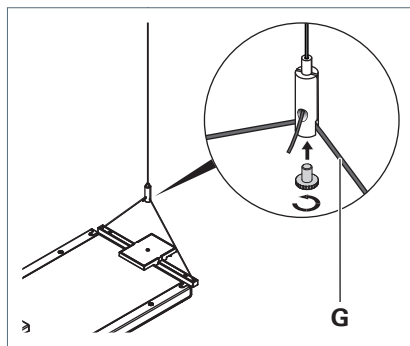

Fig. 12: Fastening the middle or end luminaire to the wire rope holder.
- ▶ Insert the wire rope **G** of the luminaire into the wire rope holder, see Fig. 12.